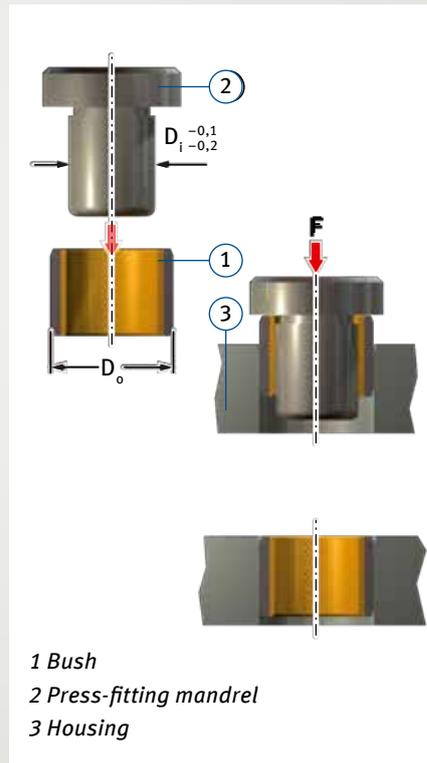

Fig. 51: Flush press-fitting  $D_o \leq 55$  mm
- Flush press-fitting with mandrel, without auxiliary ring, as per Fig. 51